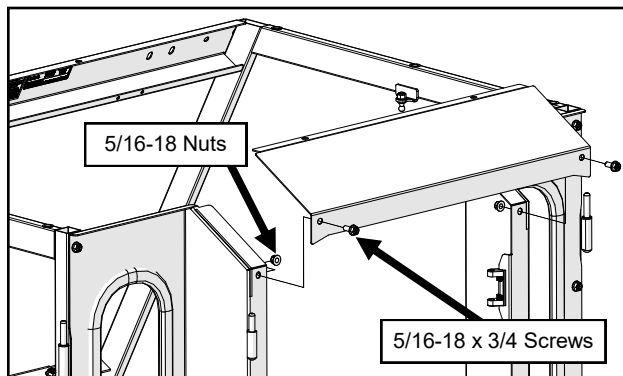

Fig. 12.1 (Install Upper Rear Cross)
- 12.1 Set the upper rear cross on top of the rear legs and loosely secure. See Figure 12.1.